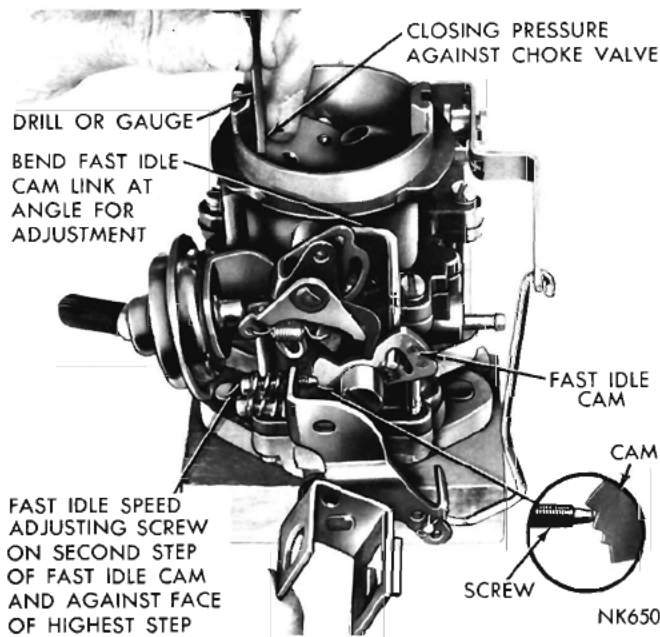

Fig. 14—Fast Idle Cam Position Adjustment
(1) With the fast idle speed adjusting screw contacting the step on the fast idle cam shown in (Fig. 14), move the choke valve toward the closed position with light pressure. Insert a drill or gauge between the choke valve and the wall of the air horn. (Refer to Specifications for Drill or Gauge Size.)
(2) An adjustment will be necessary if a slight drag is not obtained as the drill or gauge is being removed.
(3) If an adjustment is necessary, bend the fast idle rod at the upper angle, using Tool T109-213, un-
til the correct valve opening has been obtained. Refer to (Fig. 14).